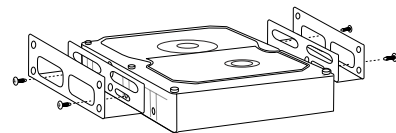

Figure 8. Mounting the Brackets on the Hard Drive
1. **Attach the mounting brackets to the hard drive using four of the eight screws.** See Figure 8 for details.